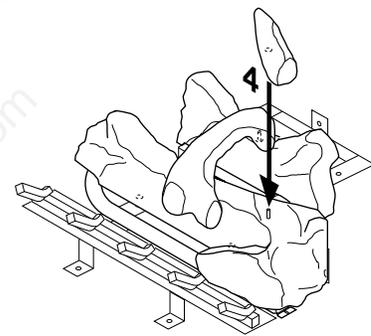

Figure 53 - Installing Log No. 4
4. Place log #4 (small, round log) on the pin on the right side of front log as shown in Figure 53